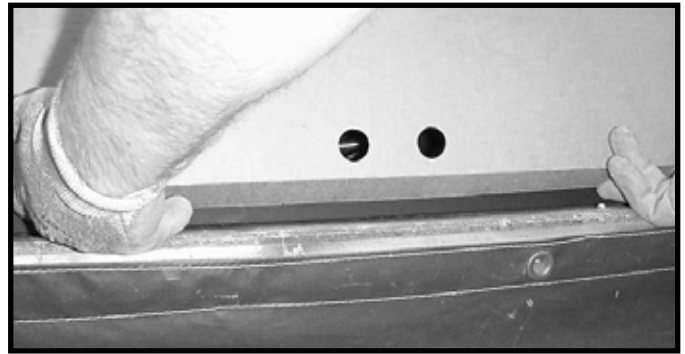

Figure 11.6 Folding Bottom Flap
Step 5. Fold bottom flap along score line as indicated in Figure 11.6 and tuck into valve access area of appliance. Splatter guard should fit securely on front of unit.